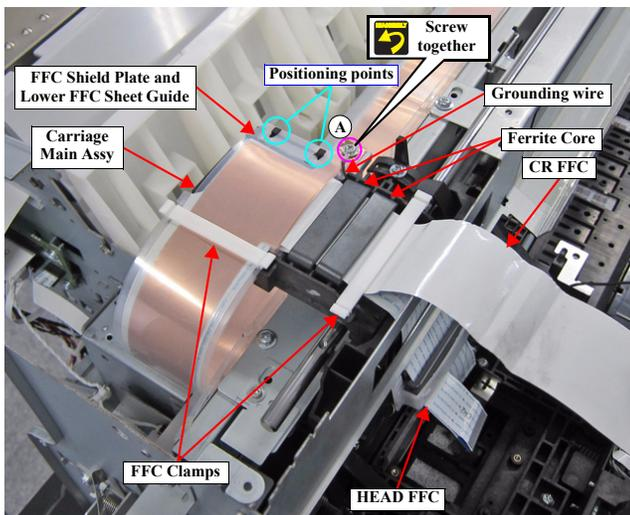

Figure 3-69. Removing the CR FFC (Top of the CR UNIT)
- Pay attention to the positioning points (See Figure 3-69).